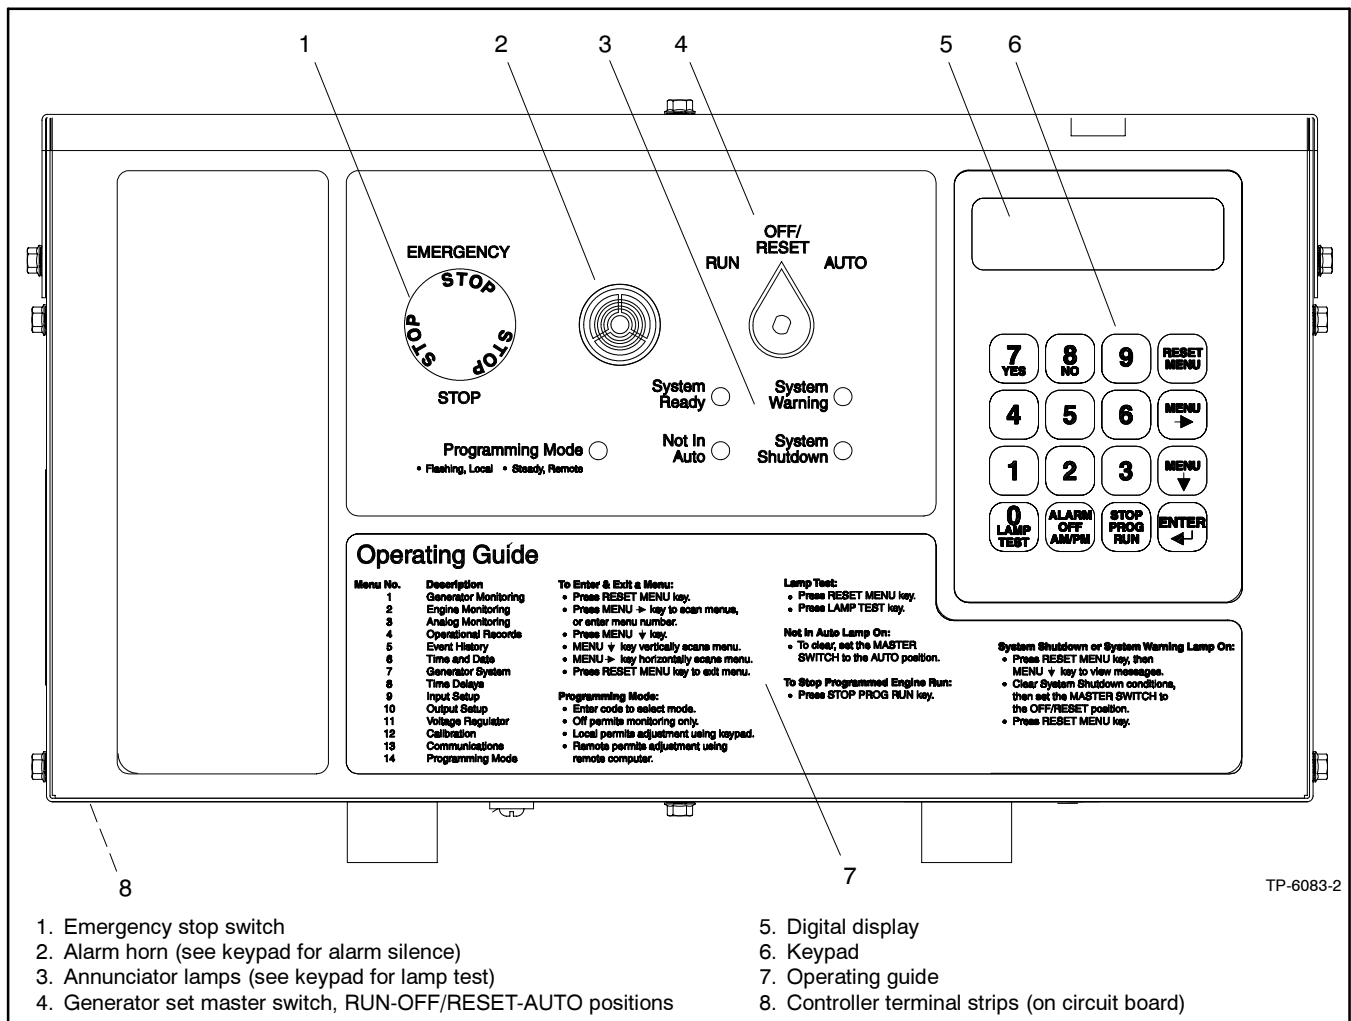

Figure 1-1 Controller Front View
The 550 controller, available on 20–2000 kW generator sets, meets the requirements of NFPA 99 and NFPA 110. The controller contains microprocessor-based logic and communicates with a personal computer (PC) individually or on a network when equipped with optional communication software products. The controller provides complete compatibility with select engine electronic control module (ECM) and non-ECM equipped generator set engines. Refer to Section 2.2, ECM Engines and Controller Displays, for identification of compatible ECM engines. All other engines, even if ECM equipped, are not compatible and considered non-ECM engines. The controller is compatible with 12- or 24-volt engine battery systems. See Figure 1-1.